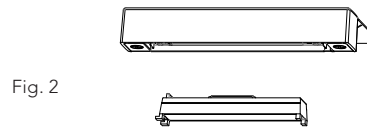

Fig. 2
3. Detach LED engine from magnet in chassis by pulling tab. (Fig. 2)